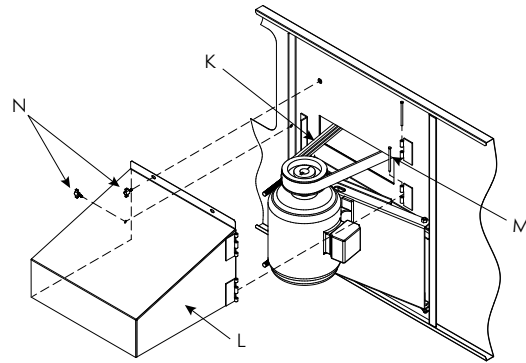

Figure 20— Motor Guard and Power-Band Belt Installation
7. Install Power-Band belt **K** (**Figure 20**) around fan sheave and motor sheave. Tighten belt by adjusting nuts on "J" bolts. Do not overtighten the belts. The center of the belt should deflect approximately 3/4" (19mm) in the horizontal plane with moderate hand pressure.
10. To install motor guard **L**, match up hinges and install hinge pins **M** as shown in **Figure 20**.